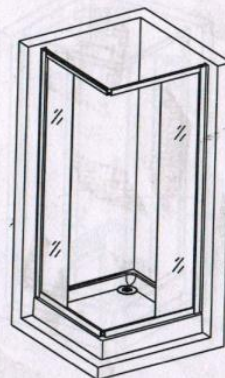

fig 10
9. Install the other side of the fixed glassflowing above steps. (fig 10)